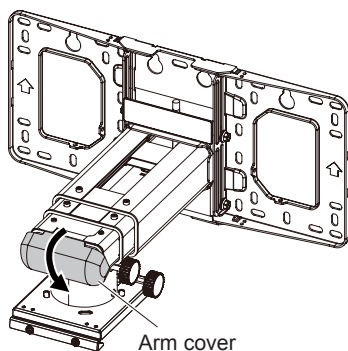

Fig.1
- 1) **Remove the arm cover from the wall mount bracket. (Fig.1)**